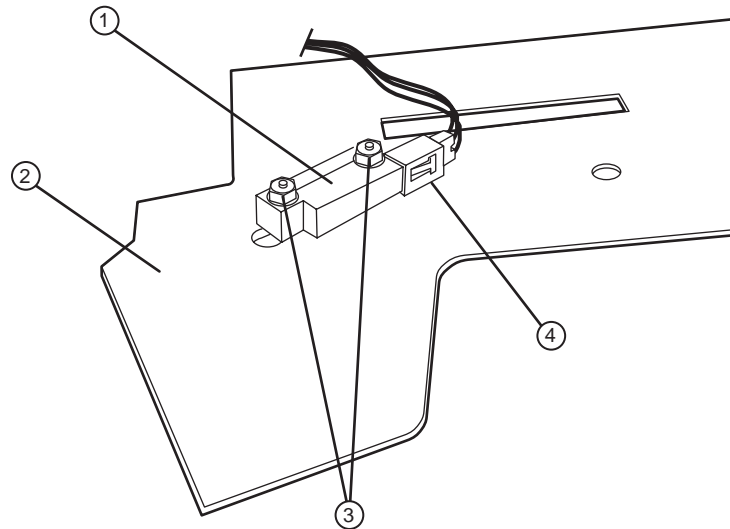

Figure 4-5 Bridge up sensor.
3. Remove the connector from the bridge up sensor. Refer to Figure 4-5.
4. Remove the sensor connector. Refer to Figure 4-5.
5. Using a 1/4" open end wrench, remove the two (2) nuts securing the sensor to the cover. Refer to Figure 4-5.